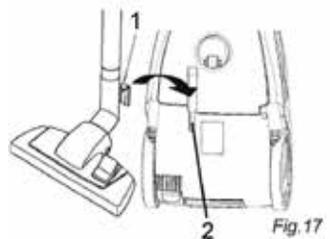

Fig.17
- To store the vacuum cleaner you can hook the park/storage hook (Fig. 17/1) into the storage (Fig. 17/2) bracket on the bottom of the appliance.